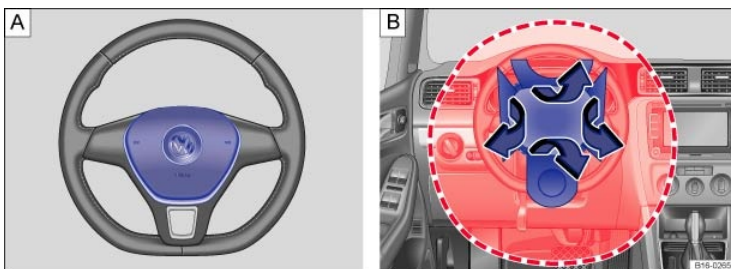
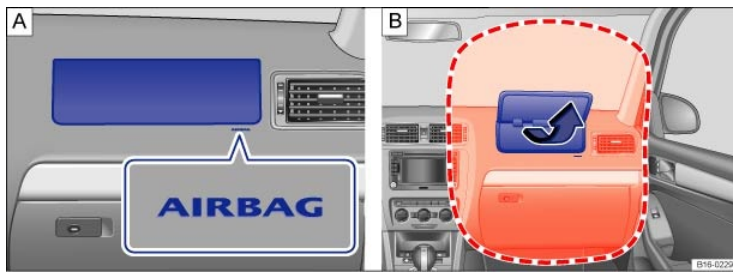

Fig. 63 Location and deployment zone of the driver front airbag.
Fig. 64 Location and deployment zone of the front passenger front airbag.
The vehicle is equipped with an Advanced Airbag System in compliance with the United States Federal Motor Vehicle Safety Standard (FMVSS) 208 or the Canadian Motor Vehicle Safety Standard (CMVSS) 208 applicable at the time your vehicle was manufactured. The airbag for the driver is in the steering wheel hub ⇒ Fig. 63 and the airbag for the front passenger is in the instrument panel ⇒ Fig. 64 . The general location of the airbags is marked AIRBAG.
The areas marked in red (dotted lines) ⇒ Fig. 63 and ⇒ Fig. 64 indicate the airbag deployment zone. Never place or attach accessories or other objects (such as cup holders, telephone brackets, note pads, navigation systems, large, heavy or bulky objects) on the doors, on the windshield, over or near the area marked in red (dotted lines).
- Never place accessories or other objects (such as cup holders, telephone brackets, notepads, navigation systems, or things that are large, heavy, or bulky) on the doors or attach them to the doors; never place them over or near the area marked AIRBAG on the steering wheel, instrument panel, or seat backrests, or between those areas and someone in the vehicle ⇒ Fig. 63 and ⇒ Fig. 64. Such objects could cause serious injury in a collision, especially if an airbag inflates.